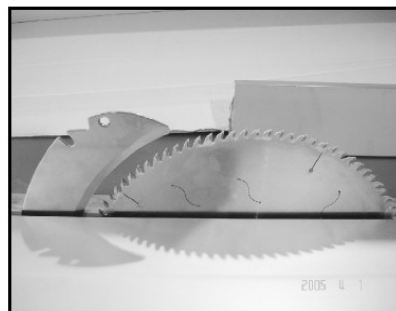

Fig. 52
4. Slide the leading end of the rip fence so it is even with the center of the main saw blade (Fig. 52)